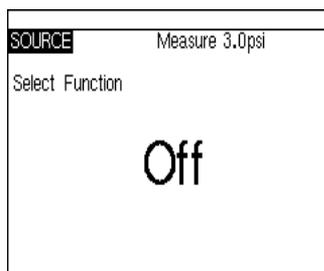

Figure 14
4. Next depress the "MEAS/SOURCE" button; now you are in the source screen (Figure 14).